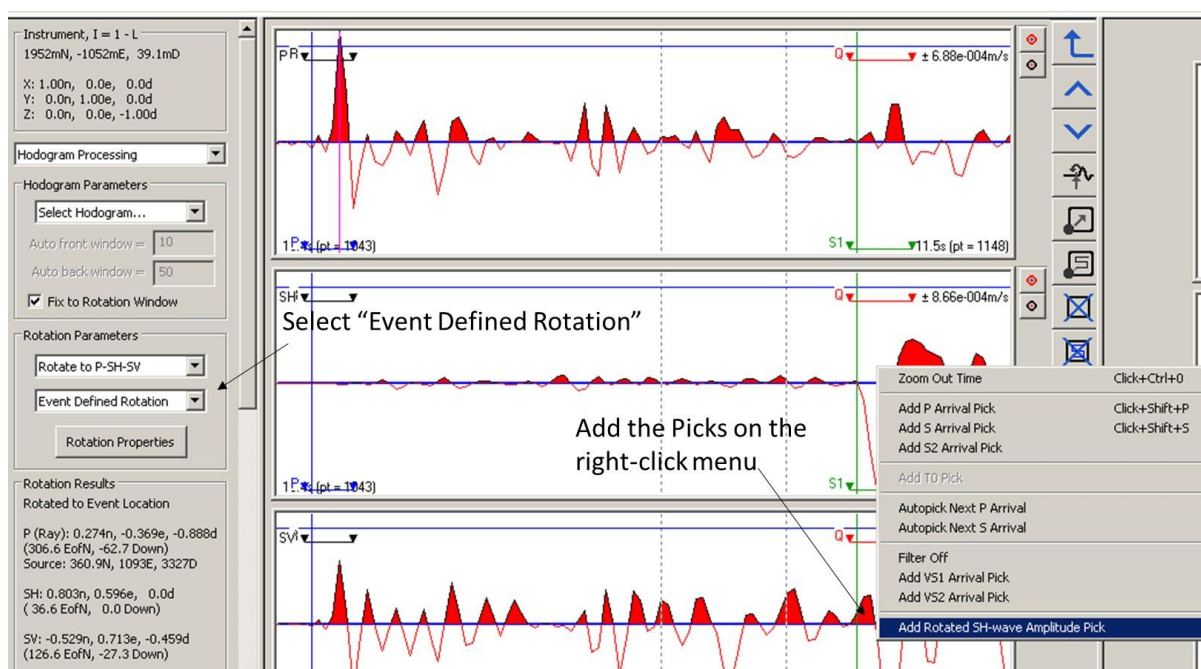

Figure 7-11: The user interface for manual picking P-, SH-, and SV-wave amplitude used in moment tensor inversion.
- iv. Event-Defined Rotation - the source and ray vectors are calculated from the event's location. This method must be used to manually pick P-SH-SV amplitude for moment tensor inversion (Source Mechanism Tool). For example, to manually pick P-wave amplitude, you can right-click on the P,SH, or SV waveform and select "Add Rotated P-wave Amplitude Picks" (Figure 7-11).